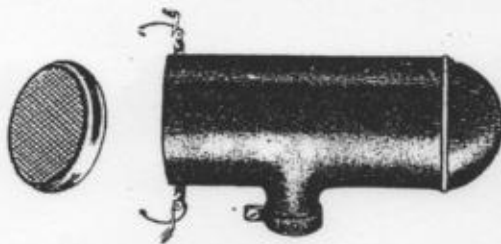

Fig. 34
1. The type of air cleaner to be used on Types F 7 / F 8 and F 10 three-speed fitted with BFLH 30 horizontal carburetter, Part No. 1817 172 01 01 000, is the Knecht unit with filter element, Part No. 1817 178 01 01 000, having element Part No. 1817 173 03 10 000, as shown in Fig. 34.
The 700 c.c. pickup F 89 L three-speed and four-speed models with BFLH 30 horizontal carburettor, Part No. 1817 172 01 01 000, is likewise intended to use the Knecht air cleaner with element, Part No. 1817 173 01 01 000, as shown in Fig. 34.